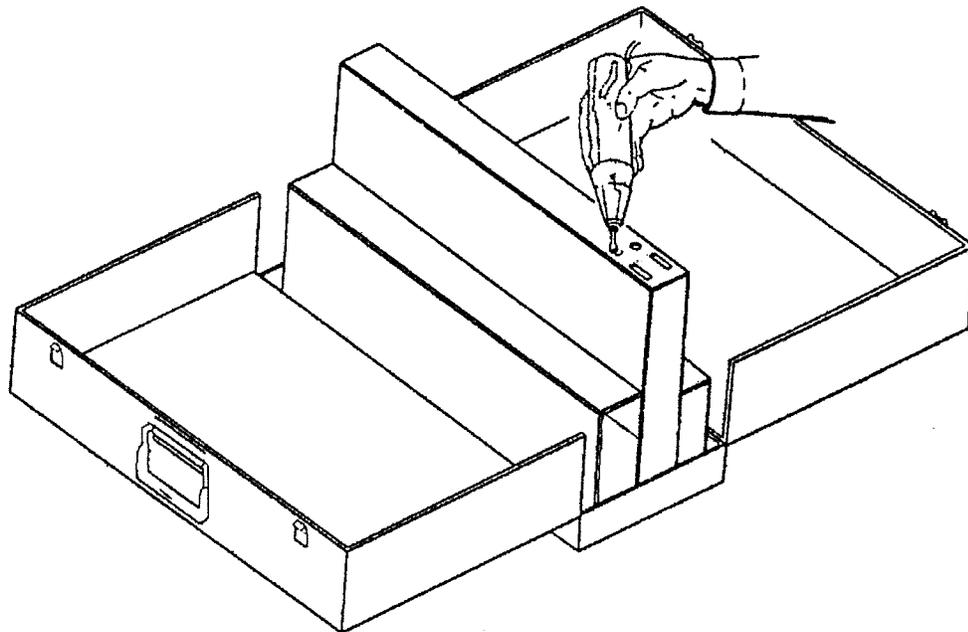

Figure 5-18. Rotary Electric Tool
r. Figure 5-18 illustrates the use of the rotary electric tool (NSN 5130-01-014-6856), which is used to cut holes of various shapes to retain tools.